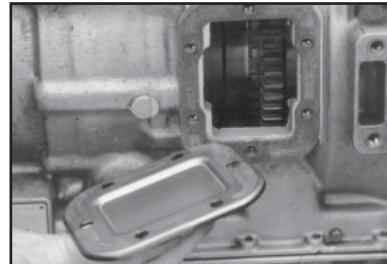

Figure 3
1. Remove the PTO aperture cover plate (**Fig. 3**).